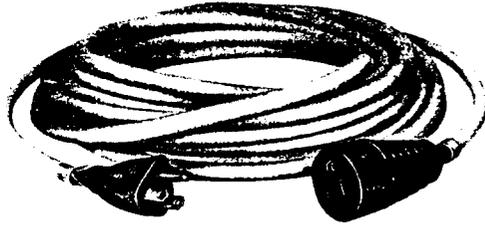

Fig. 6--Extension Cord
3.05 C and D extension cords shown in Fig. 6 are available for connecting power tools to outlet receptables remotely located from the work area. These cords, 30 feet in length, have a standard molded male plug at one end and a standard molded female connector body at the other. The C extension cord is wired with 18-gauge conductors while the D cord uses 14-gauge conductors.